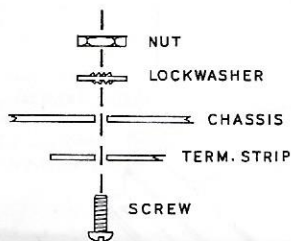

Figure 4
- (✓) Place the 20 μ fd filter capacitor in position so the negative lead passes through the solder lug at C (S).
- (✓) Connect the positive (red) lead to E1 (NS).
- (✓) Connect a 4" length of hookup wire to E1 (S). Leave the other end free.
- (✓) Connect a 4" length of wire to E2 (S). Leave the other end free.
- (✓) Connect a 4" length of wire to E3 (S). Leave the other end free.
- (✓) Lay the chassis top aside and mount the 4-lug screw-terminal strip at AA on the chassis base using 6-32 hardware. See Figure 4.